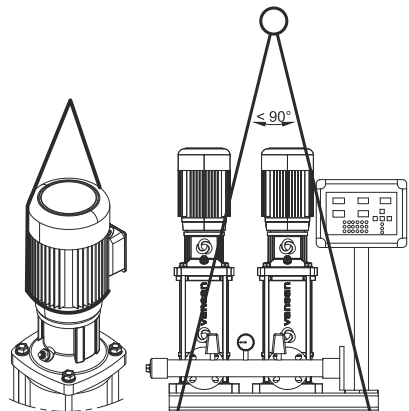

Figure 1
- Lift the pump to the center of gravity (Fig.1)